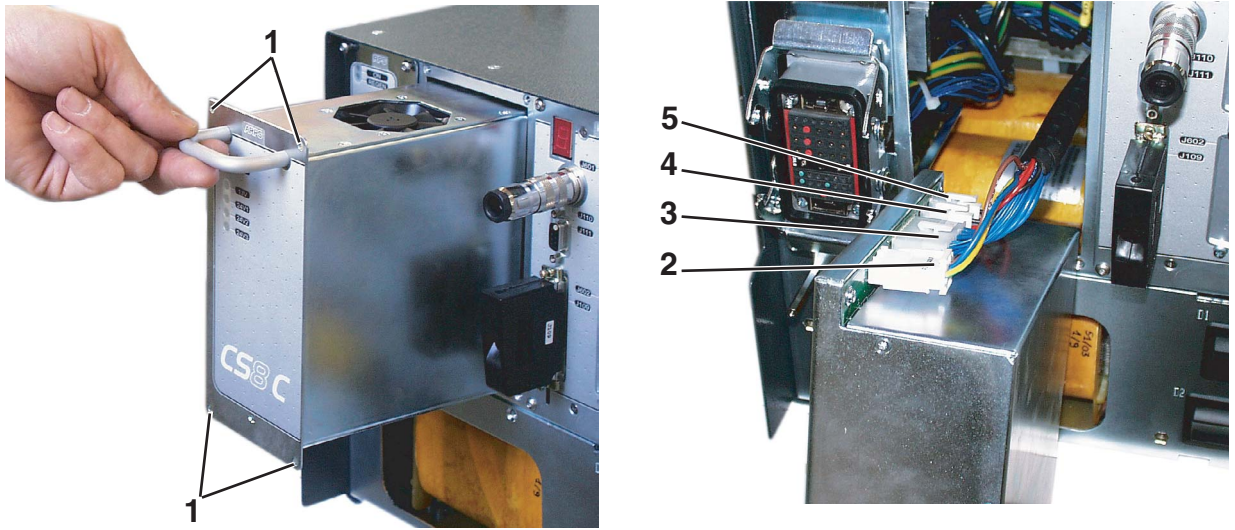

Figure 8.12
- Unplug J1102 (3), J1103 (4), J1104 (5) connector at ARPS outputs (see figure 8.12):